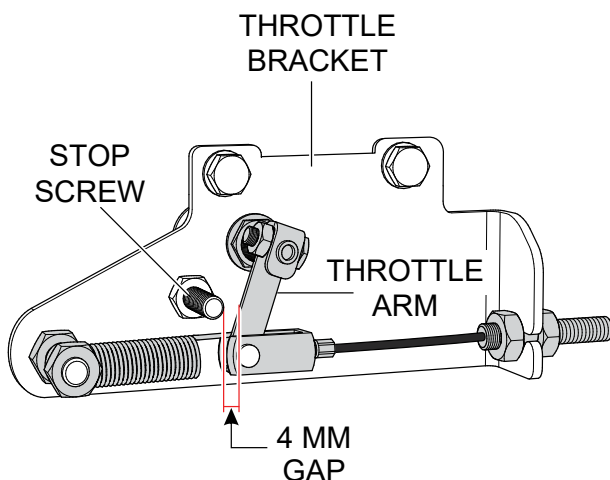

Figure 26. Throttle Arm Gap (4 MM)
3. Verify that a 4mm gap (Figure 26) exist between the throttle arm and the stop screw. Adjust if necessary.